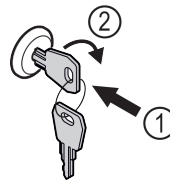

Fig. 62 Example illustration
- ▶ Insert key Fig. 62 (1).
- ▶ Turn key clockwise by 90° Fig. 62 (2).